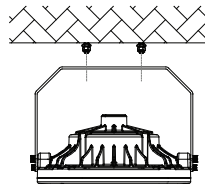

Figure 3
3. The holes on the bracket align with the expansion screws (Figure 3),